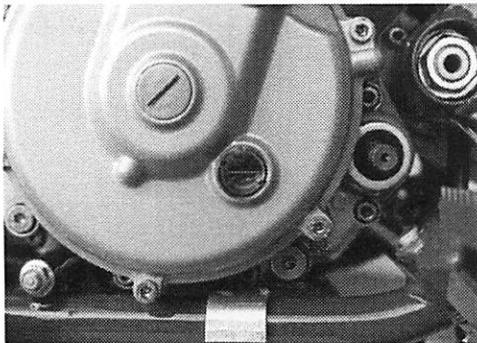

Figure 4.3
11. Oil should cover approximately 1/2 of sight glass on clutch cover. (Figure 4.3)